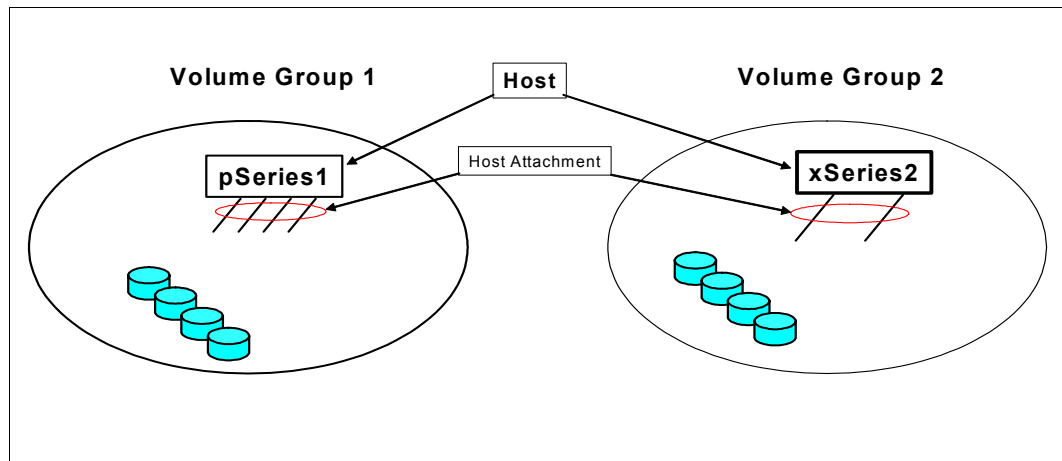

Figure 10-3 Diagram of the relationship of a host attachment to a volume group
- ▶ Multiple host attachments, even different open system host types, with the same block size and addressing mode, can access the same volume group. The safest approach to this concept is to configure one host per volume group. If shared access to the LUN is required, for example, for dual pathing or clustering, then the shared LUNs may be placed in multiple volume groups as shown in Figure 10-3 on page 195.
In Figure 10-3, we show two volume groups, volume group 1 and volume group 2. A pSeries server with 1 host attachment (four ports grouped in that attachment) resides in volume group 1. The xSeries2 server has 1 host attachment (2 ports grouped into the attachment). The ports are grouped together in one attachment definition. For example, the server, xSeries2 is dual pathed to the LUNs through one attachment group definition.